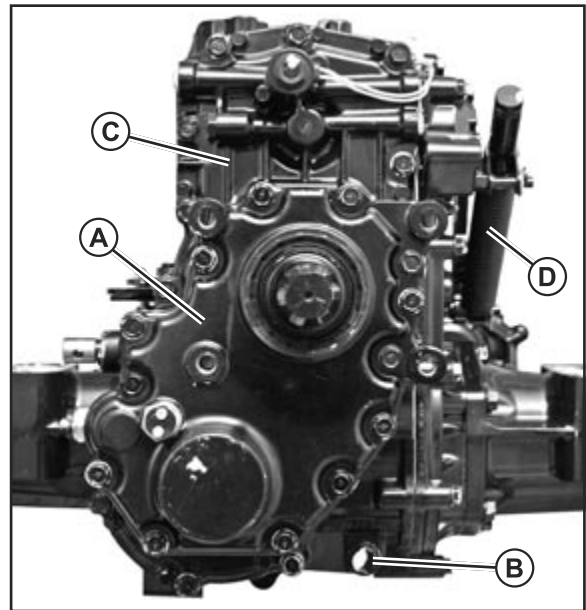

Fig. 18, Transaxle Cover
2. Remove optional rear PTO (A), if installed. (See "Rear PTO Removal and Installation" on page 14.) (Fig. 18)
3. Remove rear transaxle cover (C). (Fig. 18)
1. Remove plug (B) to drain oil from transaxle. (Fig. 18)